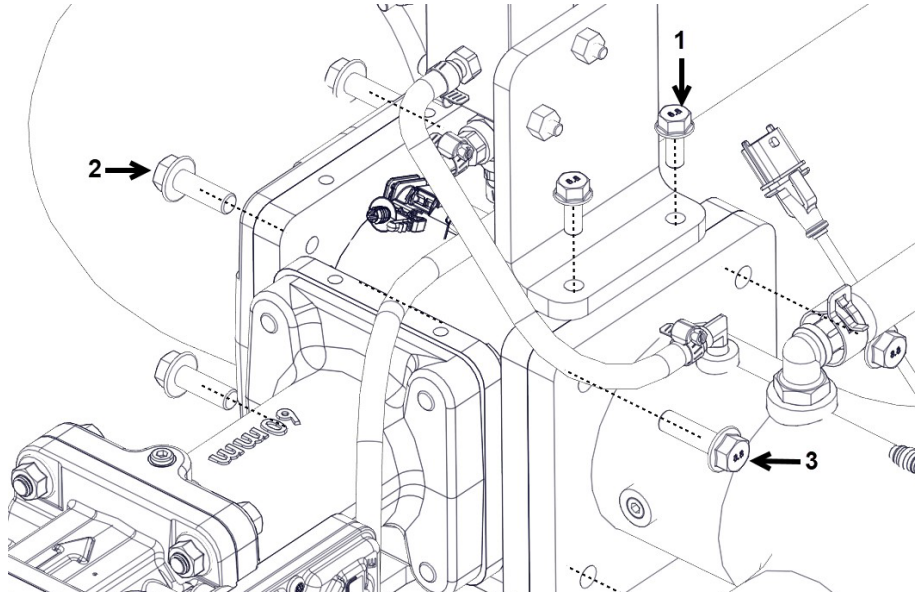

Figure 34.
4. Remove the two bolts (Figure 34, Item 1) on the electronic boost control bracket and remove all bolts on the nozzle (Figure 34, Items 2 & 3).
8. Install a new O-ring onto the nozzle (Figure 31, Item 2) then insert the air filter and torque down all four bolts (Figure 34, Item 2) to 22 ft/lb.
9. On the opposite end of the nozzle (Figure 31, Item 2) insert and torque down the four bolts (Figure 34, Item 3) to 30 ft/lb.
10. Place the electronic boost control bracket onto the nozzle and insert and torque down the two bolts (Figure 34, Item 1) to 22 ft/lb.